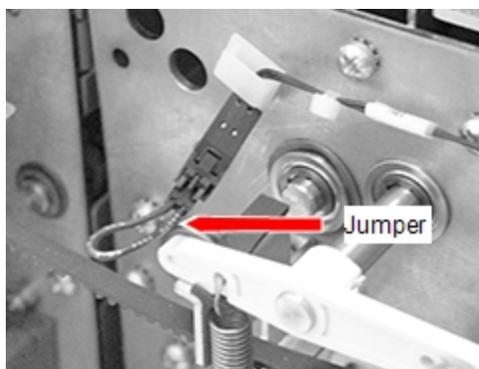

Figure 27 Interlock Wiring
2. Jumper the interlock harness as shown in Figure 27.